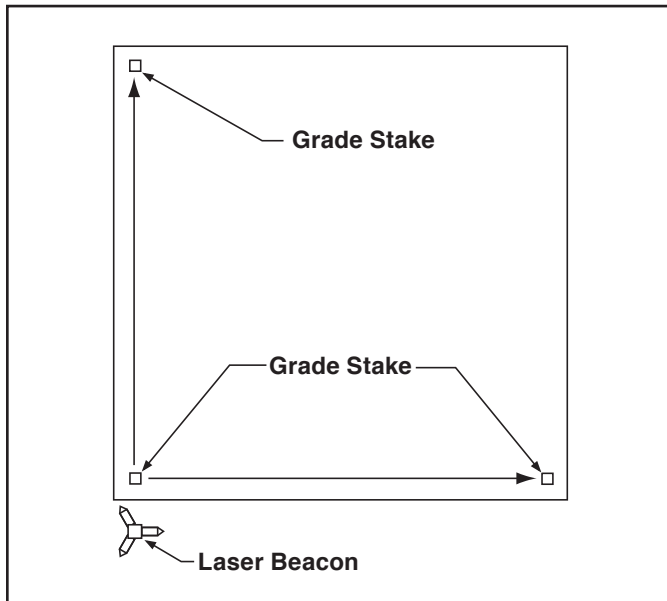

Figure 40. Method Two: Align Rotating Laser with Grade Stakes.
2. Place the Rotating Laser a few feet (meters) behind the first grade stake and in line with one of the far grade stakes (it is not critical to align the Rotating Laser exactly). (Refer to Figure 40.)